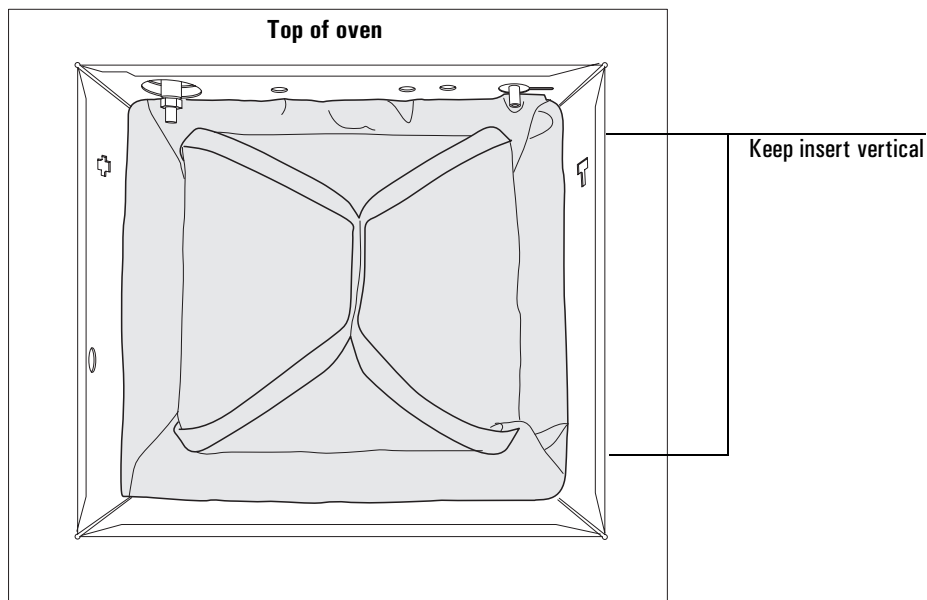

Figure 18 Oven insert installed in the oven
3. Push the bottom of the insert into place as shown in Figure 18. Keep the insert upright as shown.